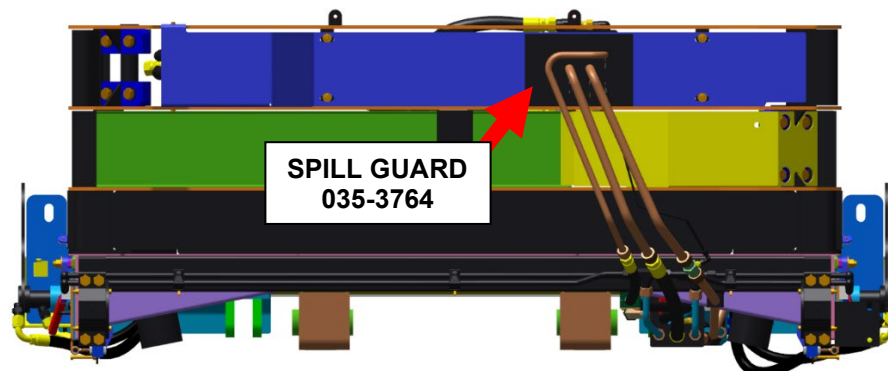

Figure 8. Spill Guard (035-3764) Installation Location
- (4) Install the Spill Guard (035-3764) and Spill Guard Support Bracket (311-6871-001) to front head cover plate using four (4) self-drilling Tek Screws (047-2151-011). The Spill Guard Support Bracket runs along the bottom of the Spill Guard. See **Figure 8**.